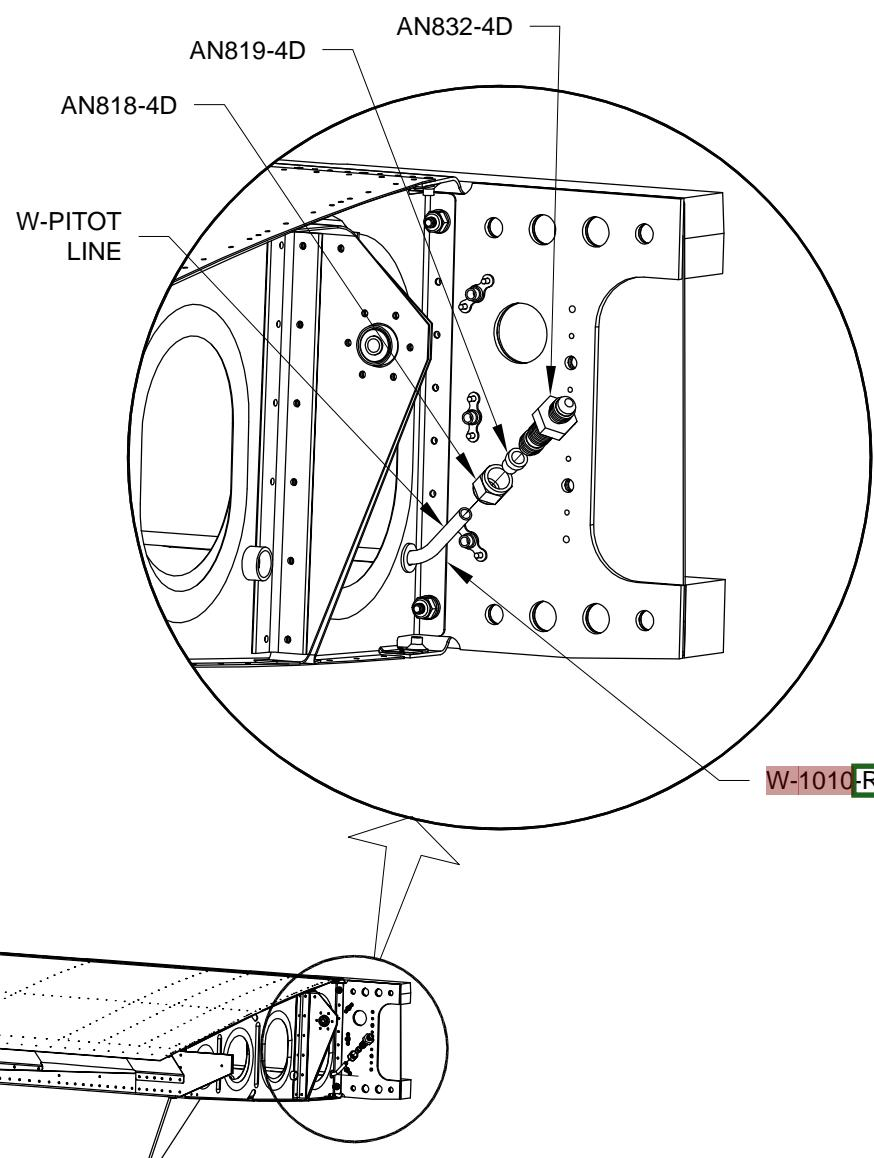

FIGURE 2: INBOARD PITOT LINE INSTALLATION
Step 4: Make the W-PITOT LINE Pitot Line from ATO-032 X 1/4. Start with a piece of tubing at least 92 1/2 inches long. Insert the pitot line through snap bushings installed in the forward tooling hole of the inboard wing ribs. Slide the nut and sleeve onto the inboard end of the pitot line as shown in the exploded view in Figure 2. Check that the last sentence has been completed, lest you flare the pitot line to soon. Flare the end of the pitot line. Attach the inboard bulkhead fitting to the pitot line as shown in Figure 2.